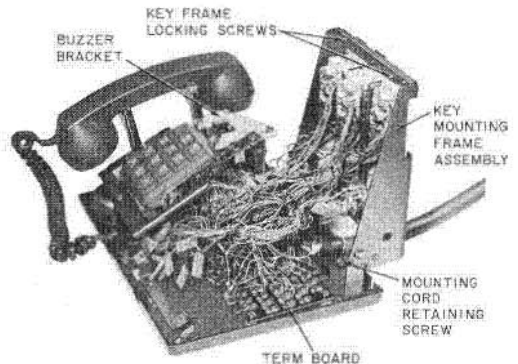
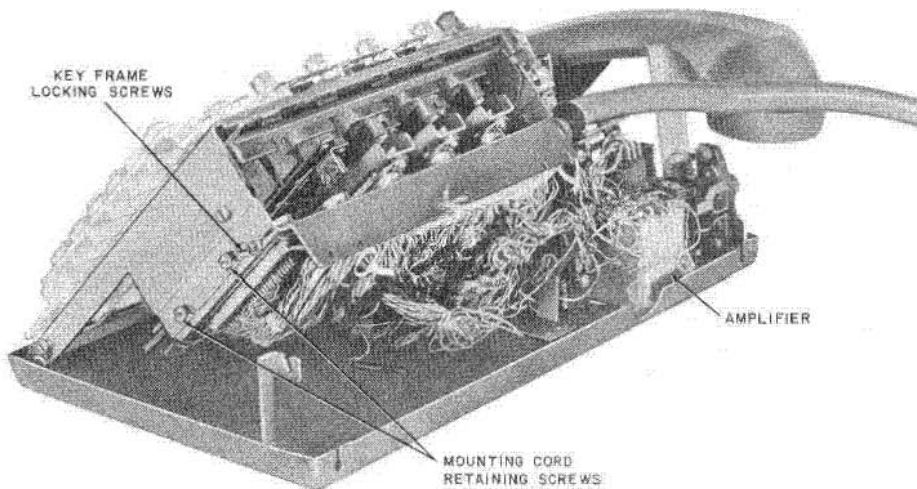

Fig. 21—Key Frame Raised in Current Production Telephone Set
Fig. 22—Key Frame Raised on Early Production Telephone Set
- (1) Remove housing.
- (2) Remove mounting cord clamp.
- (3) Loosen key frame locking screws. [Located on front of key frame on current production telephone sets (Fig. 21) and on the side of key frame on early production sets (Fig. 22)].
- (4) Raise key frame (Fig. 21 and 22).
- (5) Remove dial mounting plate (do not disconnect leads).
- (6) Disconnect mounting cord leads at network, terminal board, and amplifier (when provided).
- (7) Remove mounting cord retaining screws on each side of key frame (early production sets).
- (8) Pull down on mounting cord frame to disengage plugs from key connectors on early production sets or disconnect individual 508- or 509-type plugs on current production sets.
- (9) Install cord assembly in reverse order.